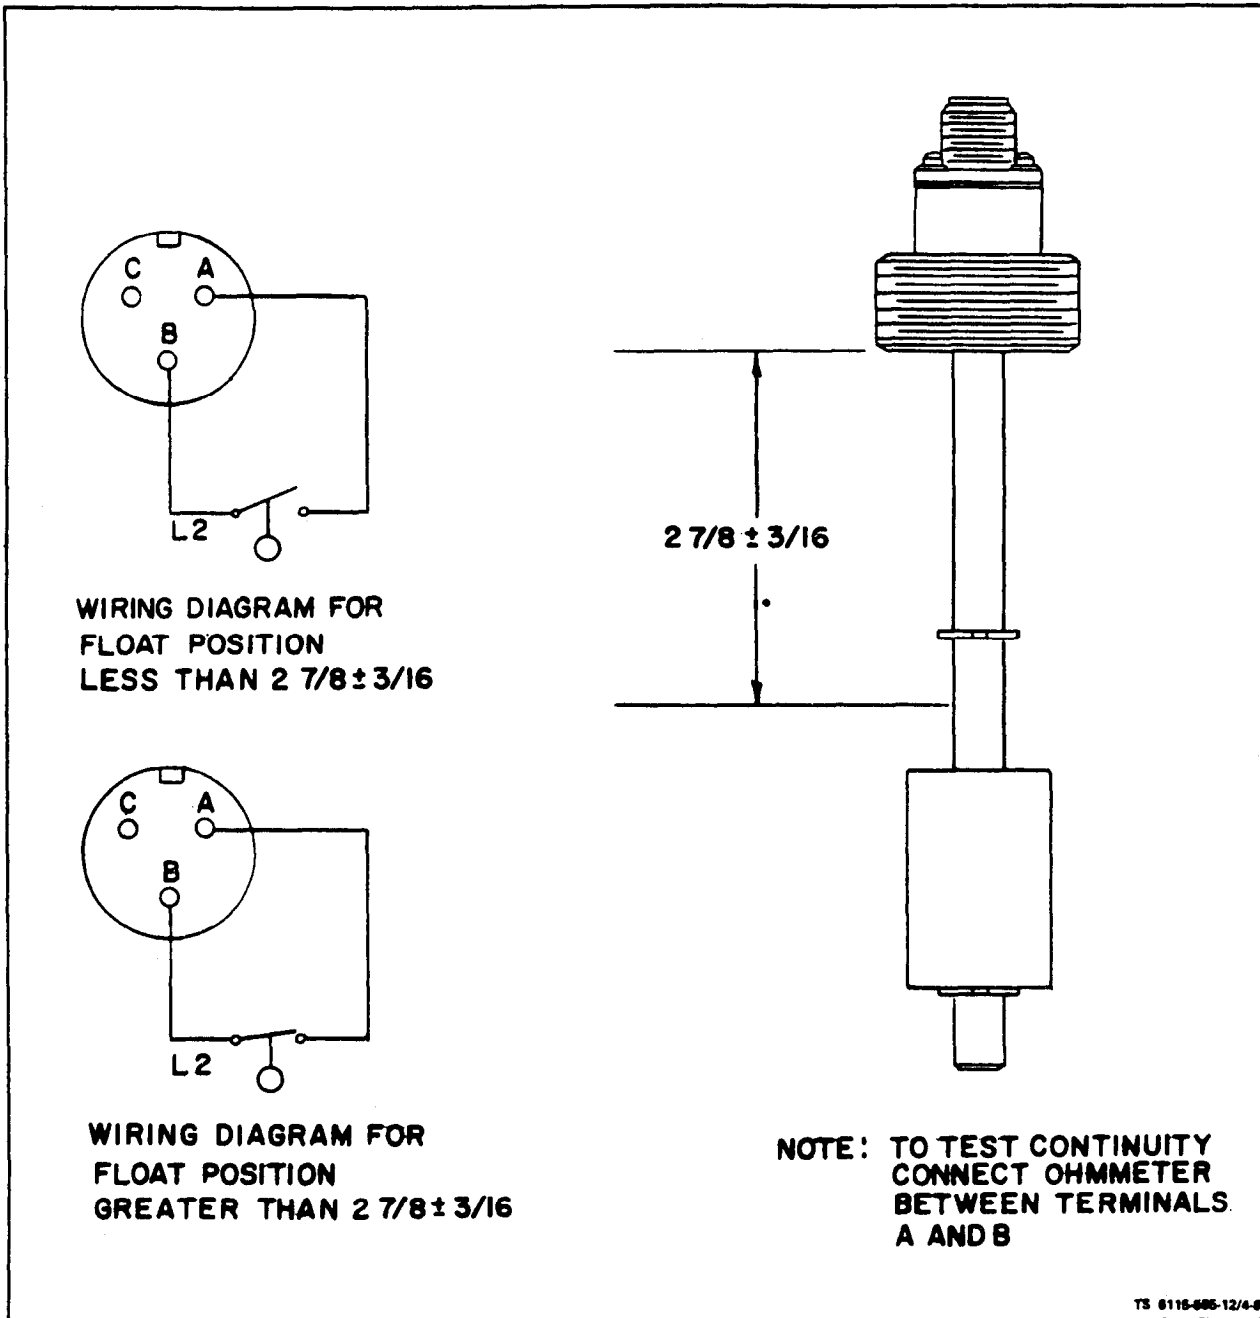

Figure 4-8. Testing Float Switch
(1) Float Switch. Remove float switch (6) from tank (9). Using an ohmmeter, check for continuity between terminals A and B of switch (see figure 4-8). Switch should show no continuity when float is up. Switch should close when float drops to 2-7/8 ±3/16 inch from threaded collar of float switch. Replace switch if it does not operate properly.
(2) Tank. If tank shows signs of physical damage or leaks refer to higher level of maintenance.